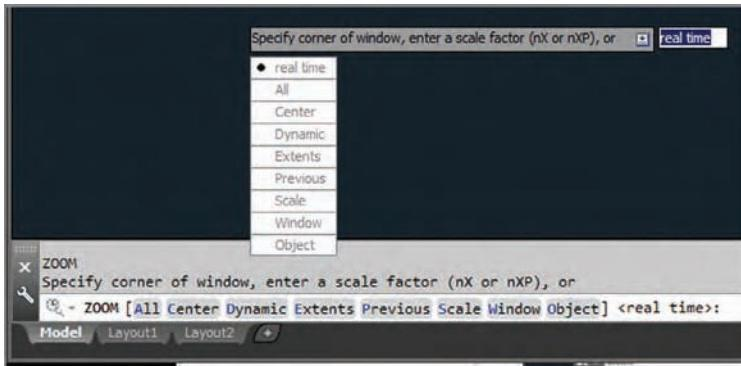

**FIGURE 2.4** Secret text in the lower-left corner of the refrigerator
8. Roll the mouse wheel forward to zoom in further and drag the mouse wheel if necessary to reveal the object in the lower-left corner of the refrigerator (see Figure 2.4).